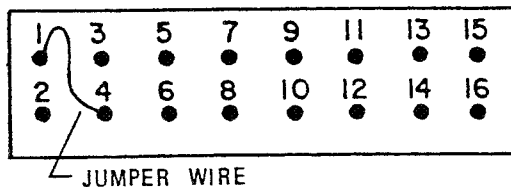

Figure 5-10. Back View Connector E (Model 6001)
3. A jumper wire must be used to electrically close the relay contacts in order to make this test. The jumper wire will be used to connect pins 1 through 16 in the 16-pin connector E. See figure 5-10. These pins are low voltage (6.3V) and there is no danger of electric shock.